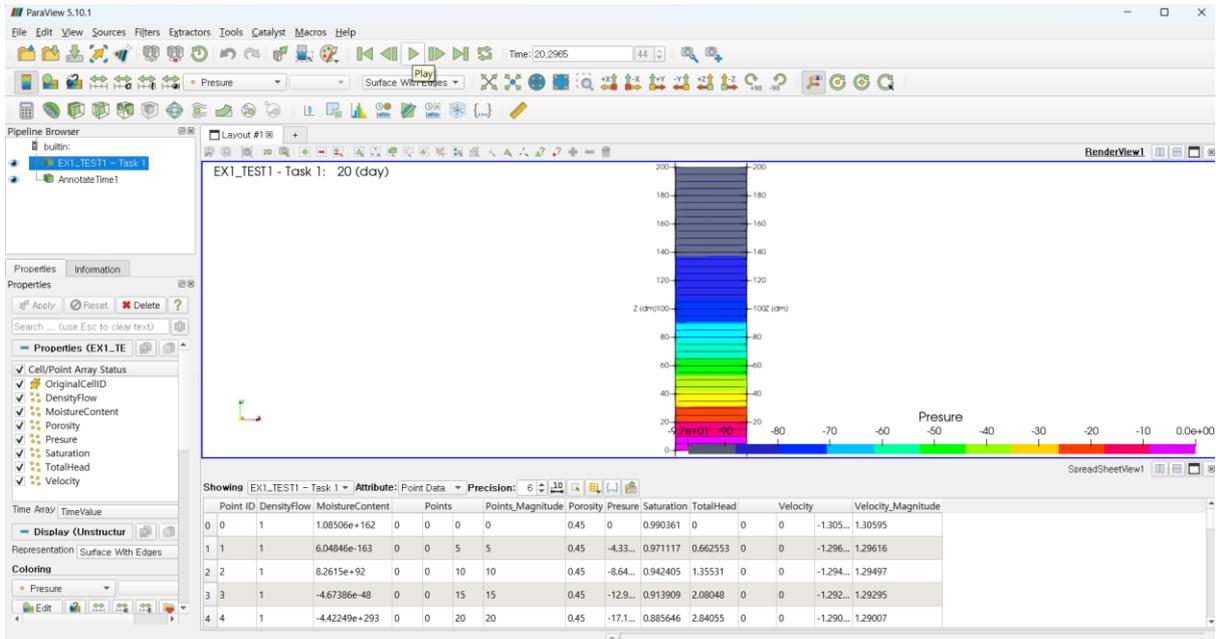

Figure 1.49. Pressure head distribution.
5. In Figure 1.49, click the play button  to display the pressure head distribution.